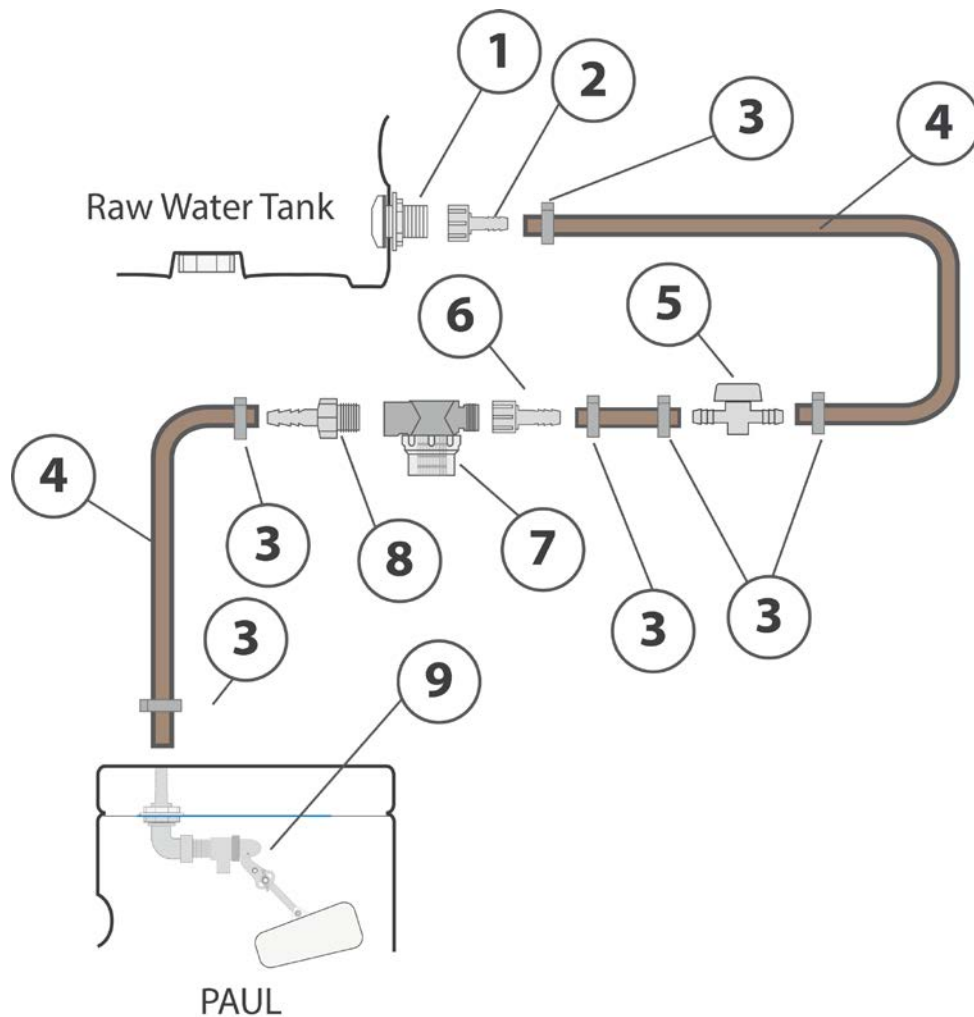

Figure 5: Connection between Raw Water Tank and PCU or OPV
Figure 5 shows the connection between Raw Water Tank and the **PAUL Control Unit** or the **Overfill Protection Valve**. The hose used here is **solid blue**.
- ➔ the water filter (7) has to be placed horizontal with the sieve facing downward, see Figure 5
- ➔ the valve (5) has to be first in direction of flow, then the water filter follows
- ➔ we recommend to place the valve (5) close to the water filter